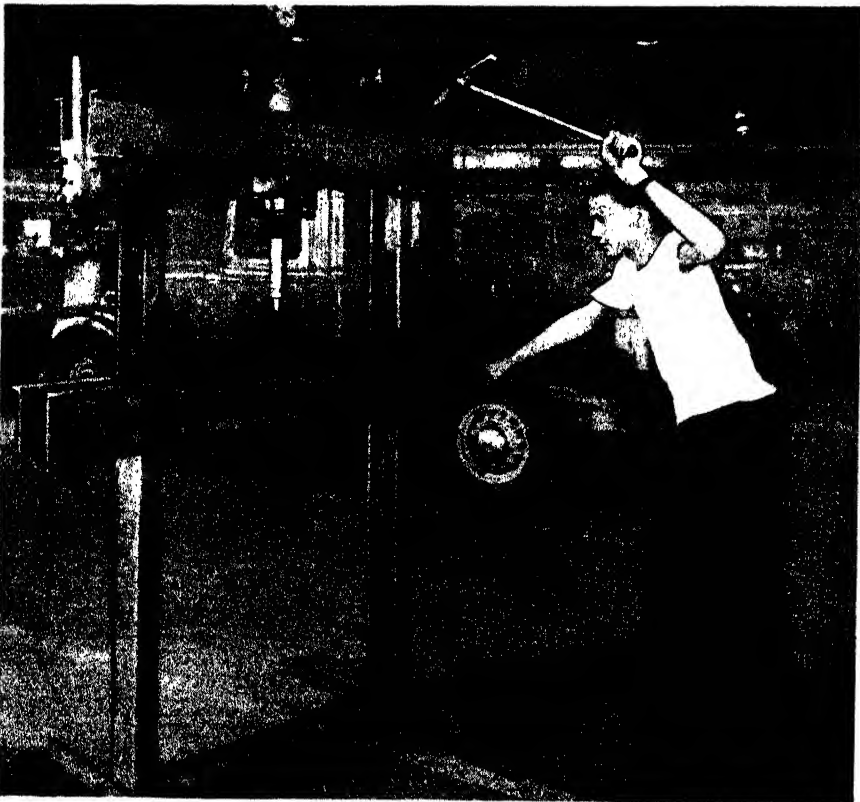

FIG. 147. HYDRAULIC PRESS FOR STRAIGHTENING AUTOMOBILE AXLES
4. The hydraulic press shown in Fig. 147 has a small piston of $\frac{7}{8}$ " diameter and a large piston of 3" diameter. A pull of 100 lbs. is exerted